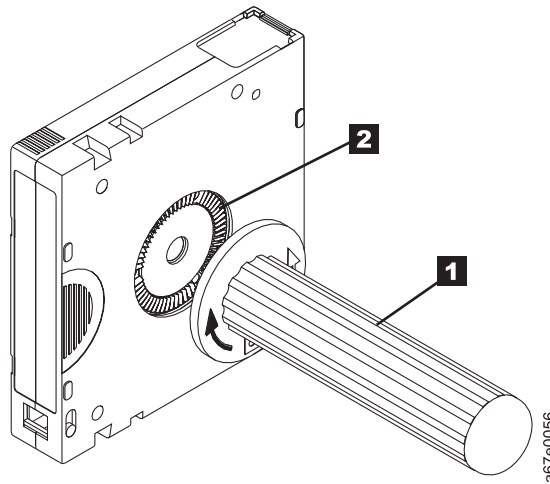

Figure 20. Rewinding the tape into the cartridge
5. To rewind the tape, insert the cartridge manual rewind tool ( **1** in Figure 20 on page 56) into the cartridge's hub **2** and turn it clockwise until the tape